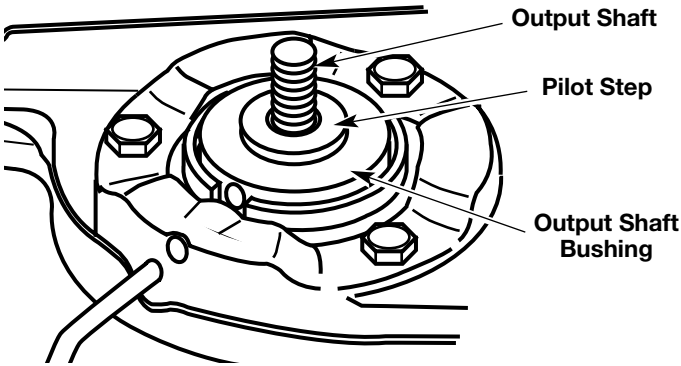

Fig. 11
- Center the cutting blade on the pilot step of the output shaft bushing (Fig. 11).